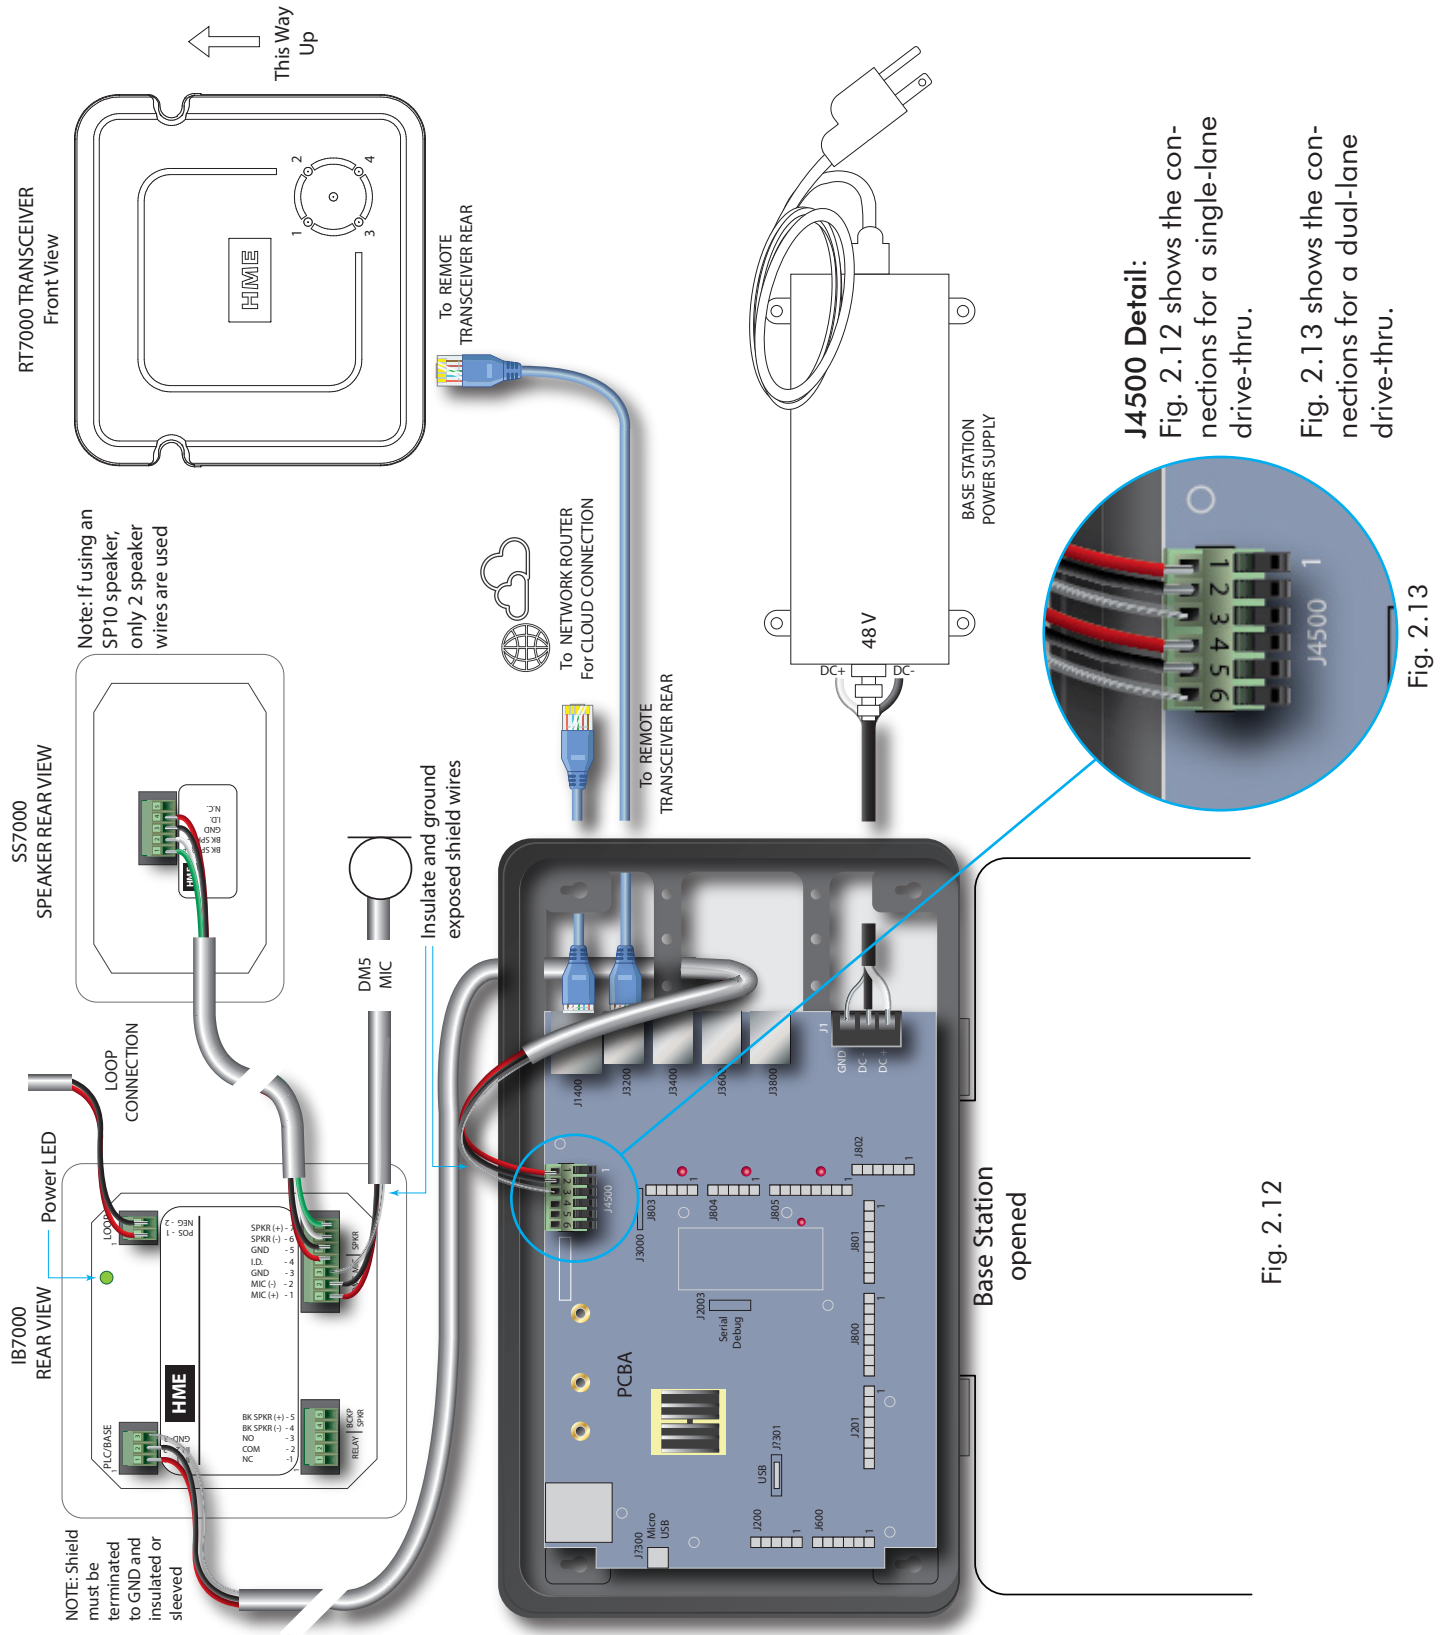

Fig. 2.12
6. Install the other components. The DM5 microphone and SS7000 speaker, or SP10 speaker, must be installed using the IB7000 interface box. Use Fig. 2.12 as a wiring reference and see "Component Notes." for more installation details.